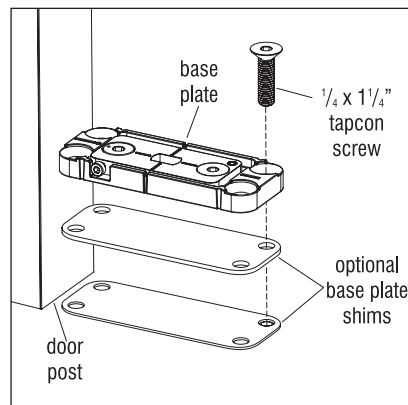

Figure 4
4. If door needs adjustment from measurements taken in step 2, previous page, lift up base plate and install optional base plate shims (Figure 4).
5. Vacuum out the debris from the hole and install one of the $\frac{1}{4} \times 1\frac{1}{4}$ " long tapcon screws supplied by KI. This will hold the base plate (and optional shims) in position (Figure 4).